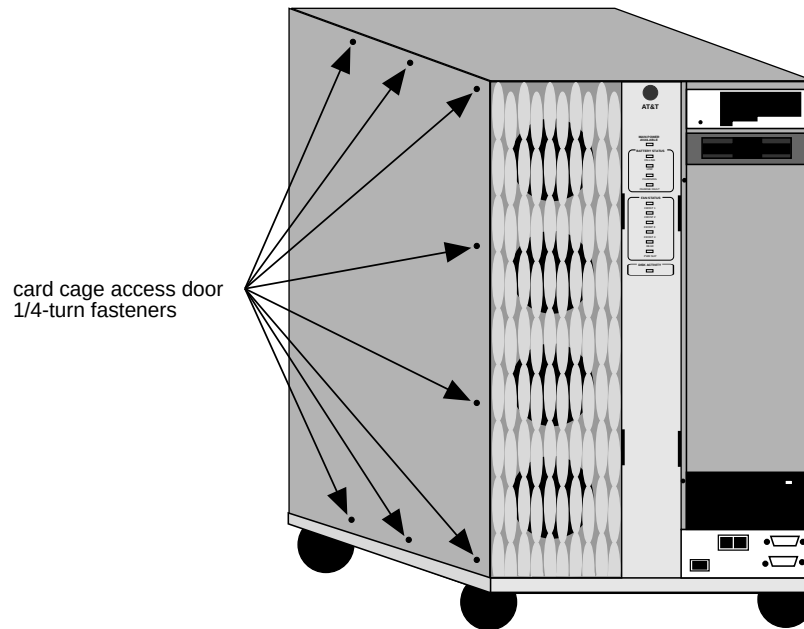

Figure A-2. Card Cage Access Door
- a. Loosen all eight of the 1/4-turn fasteners around the perimeter of the card cage access door on the left side of the unit. Open the door (Figure A-2).